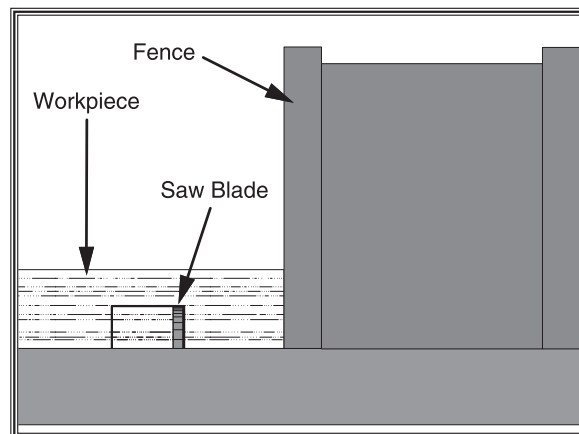

Figure 27. Single-blade dado first cut.
5. If dadoing the length of a workpiece, align the blade to cut one of the dado sides as shown in **Figure 27**.